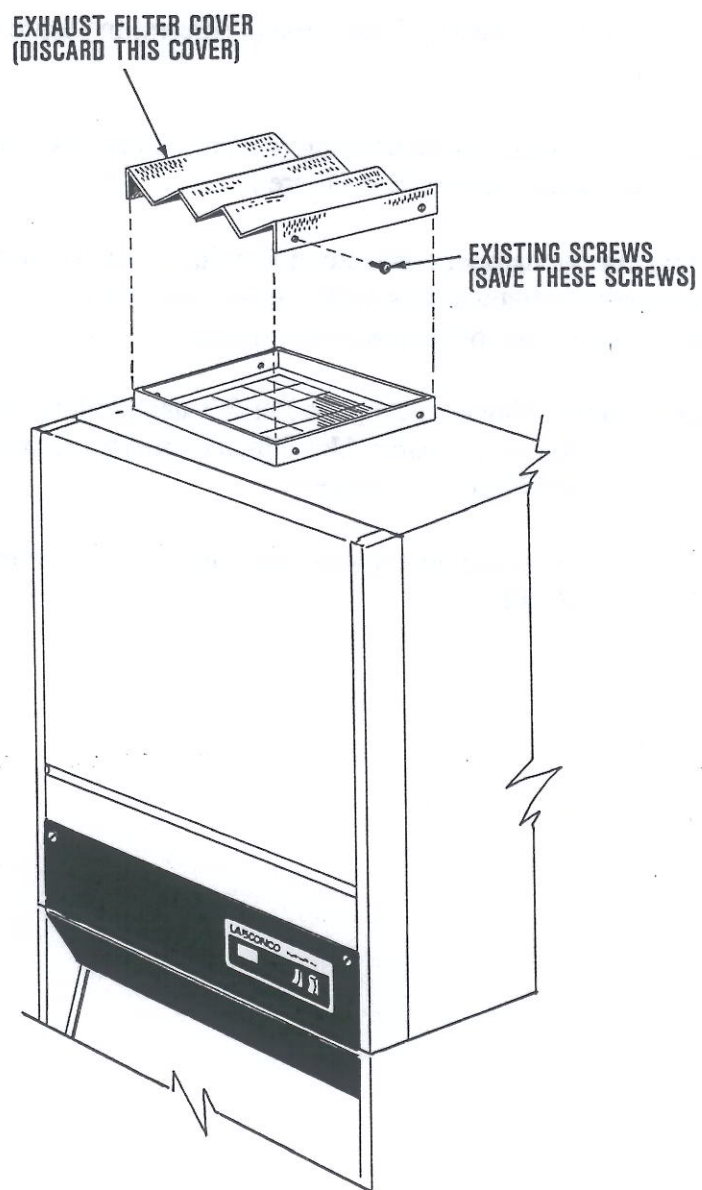

Figure 1
- (1) Remove the (4) screws holding exhaust filter cover and discard cover. See Figure 1 on page 6.